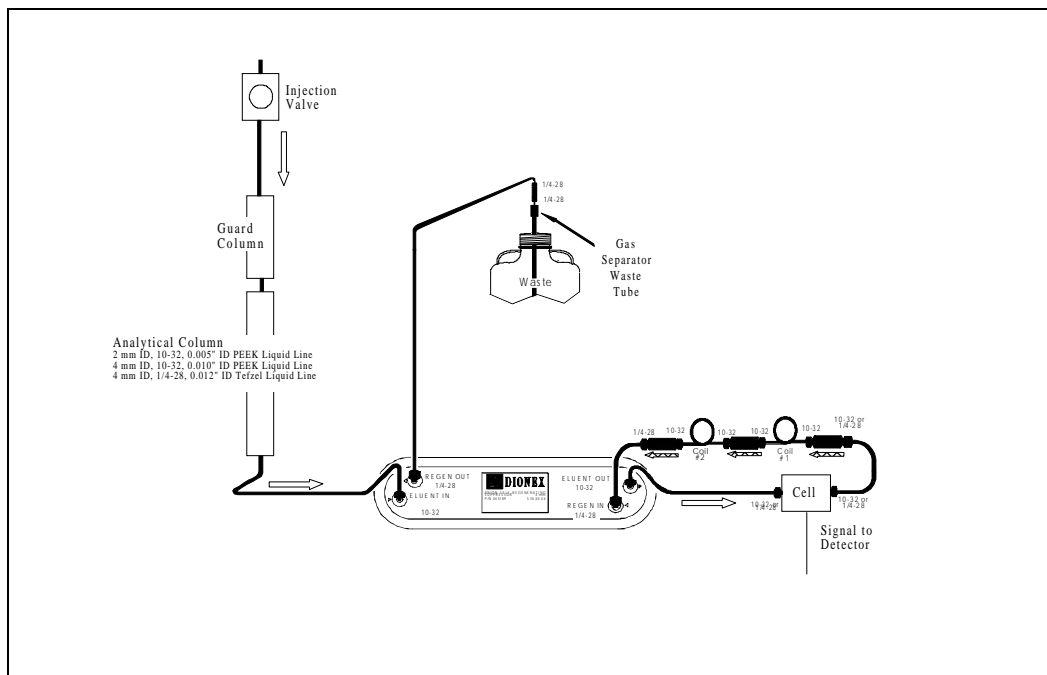

Figure B-4. AutoSuppression Mode, External Regenerant
- AutoSuppression with External Regenerant mode (SRS required), illustrated in Figure B-4. Plumb the system in this way for the AutoSuppression Chemical Suppressor and MMS Pressurized Regen System configurations, also.